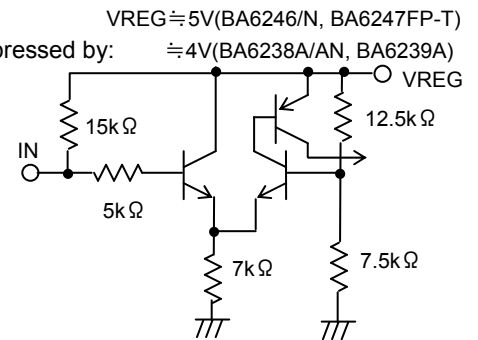

Fig.22
(2) The input terminal is pulled up at about 15 kΩ (see Fig. 22).